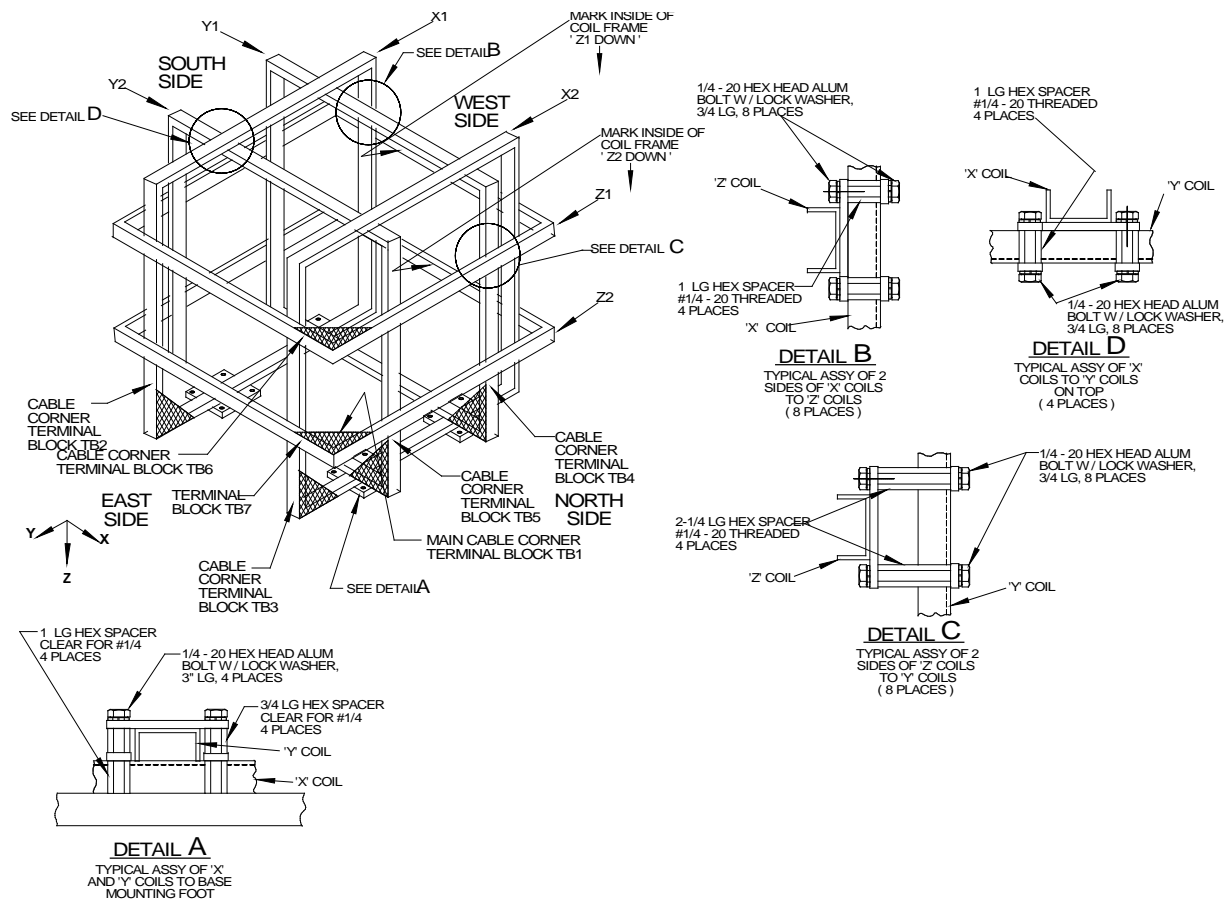
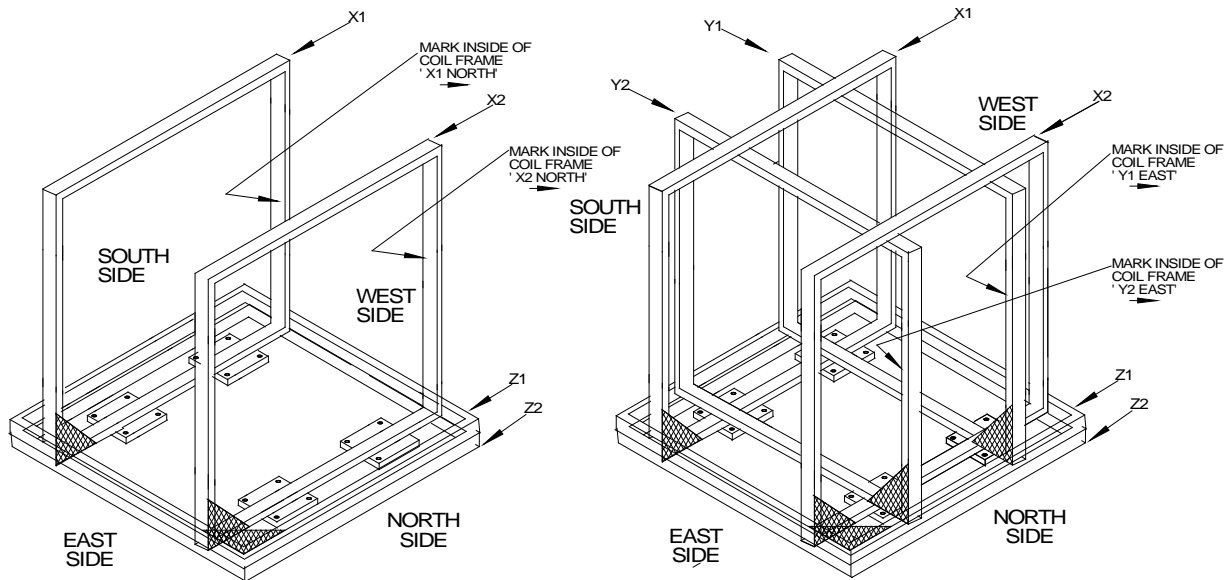

Figure 11 Final Assembly
Figure 12 X-Axis and Y-Axis Assembly
Please refer to Fig. 11.
Two people are required for the assembly of the coil system, although three will make the job easier. Please refer to Fig. 11. The drawing shows the northeast corner of the coil assembly to be nearest the viewer. This is the corner
1. Place the X1 coil with the marking upright and the marker arrow pointing as shown in Fig. 12. Make sure the coil is resting on the two footpads in line with it.
Please refer to Fig. 11 and Fig. 12.
2. Carefully align the mounting pads with the brackets on the X1 and Y1 coils. Insert spacers and screws into mounting pads as shown in detail A of Fig. 11. Align carefully until aluminum screws can be turned by hand.
5. At the top where the X and Y coils cross, install threaded spacers, $\frac{1}{4}$ -20 x $\frac{3}{4}$ " long hex screws and lock washers to the brackets as shown in detail D of Fig. 11.
Please refer to Fig. 12.
2. While holding the coil in position bolt it to the X coils with 1" threaded spacers, hex machine screws, and lock washers as shown in detail B of Fig. 11.
3. Secure the Z1 coil to the Y coils with 2 1/4" threaded spacers, hex machine screws, and lock washers as shown in detail C of Fig. 11.